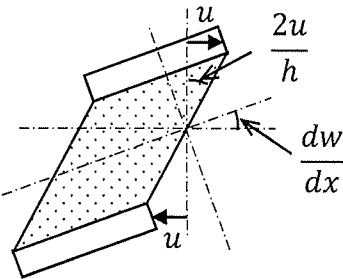

Figure 3
4. Express the shearing strain γ_{xz} in the xz plane of the core, using Figure 3.